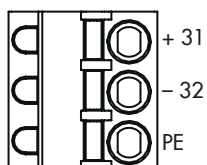

Fig. 7: Terminal assignment
- Connect the wiring as shown in Fig. 7.
- Route the grounding connection (PE) to the corresponding terminal.